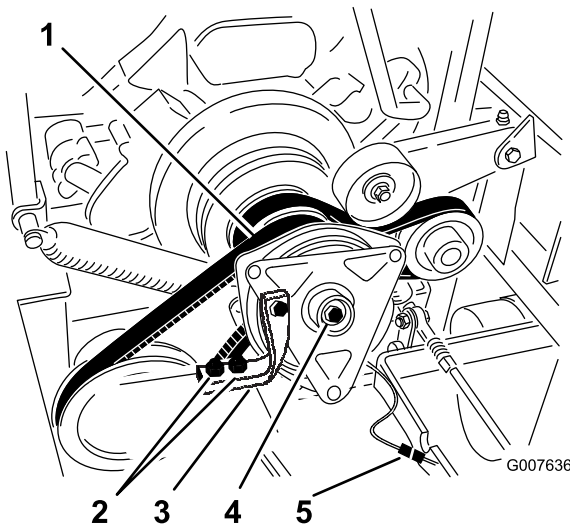

Figure 52
6. Unplug the electric connection for the clutch (Figure 52).
7. Remove the two bolts holding the rubber clutch strap to the mower frame (Figure 52).
8. Remove the center bolt holding the clutch to the engine shaft and remove the clutch and key (Figure 52).
15. While holding the crank shaft at the back of the machine, install the center bolt and torque it to 50 ft-lbs (68 N-m) (Figure 52).
16. Install the rubber clutch strap to the mower frame with the two previously removed bolts and nuts (Figure 52).
18. Plug in the electric connection for the clutch (Figure 52).